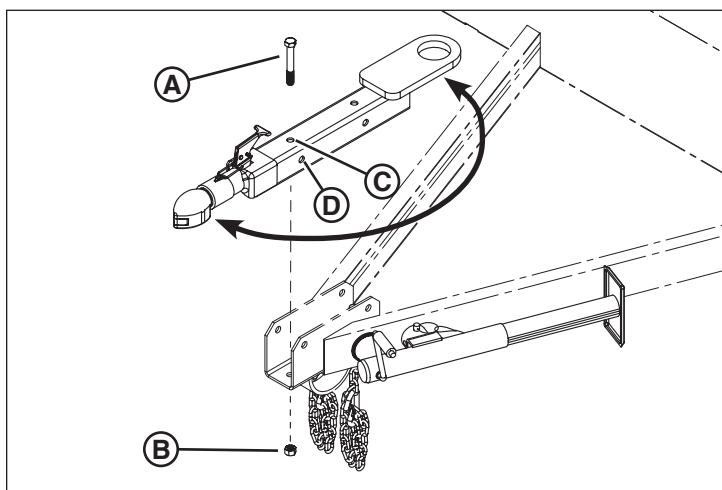

Figure 10
2. Remove the two hex head screws (A, Figure 10) and lock nuts (B) securing the tubular portion of the lunette eye to the tongue. Discard the lock nuts. Do not remove the two hex head screws and lock nuts securing the trailer coupler to the lunette eye.
- Insert the two hex head screws removed in Step 1 through the appropriate holes in the tongue and through the holes in the tubular portion of the lunette eye (C, D, Figure 10).